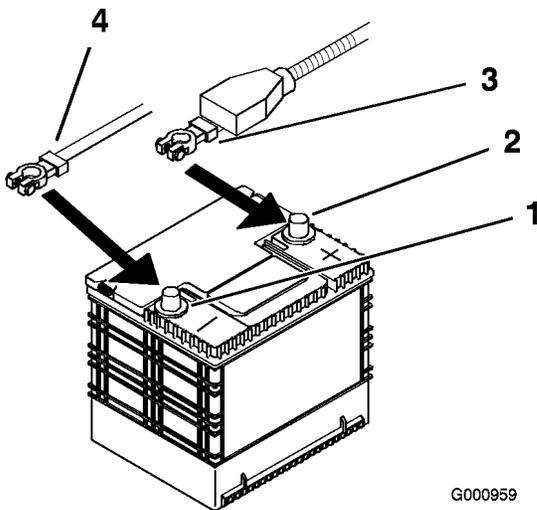

Figure 43
4. First disconnect the negative battery cable from the negative (-) battery terminal (Figure 43).
5. Slide the red terminal boot off the positive (red) battery terminal. Then remove the positive (red) battery cable (Figure 43).
4. Secure the cables with 2 bolts (1/4 x 3/4 inch), 2 washers (1/4 inch), and 2 locknuts (1/4 inch) (Figure 43).